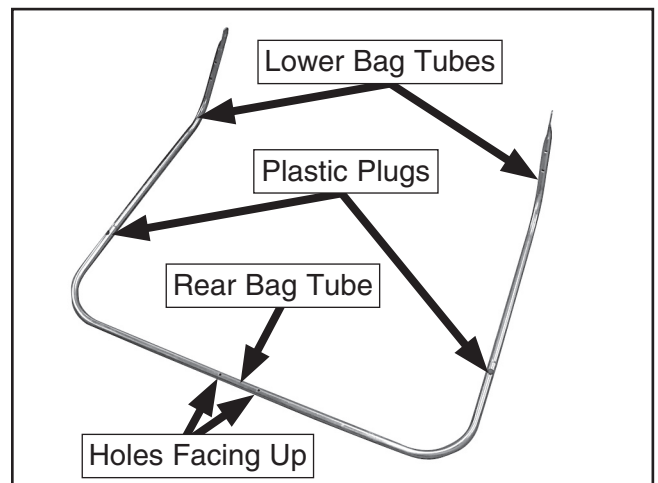

Figure 12. Lower leaf bag frame assembly.
- Assemble the lower bag tubes, the remaining rear bag tube, and the remaining plastic plugs, as shown in **Figure 12**. Make sure the holes in the rear bag tube are facing up.